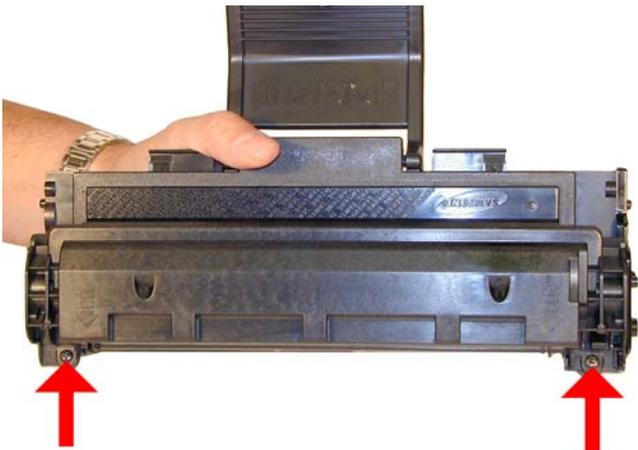

Figure 3
3) On the front edge of the cartridge, there are two screws, remove them. See **Figure 3**